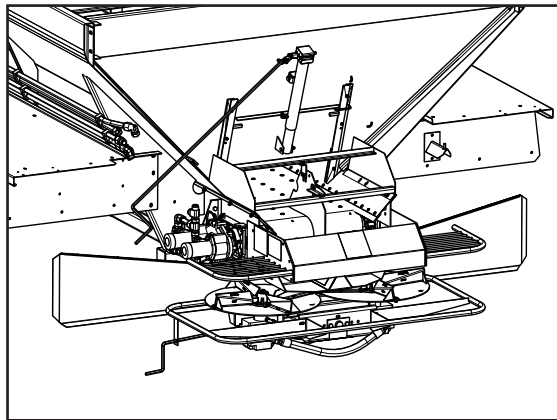

Figure 10
14. Figure 10 - Ensure all guards and shields are securely in place.